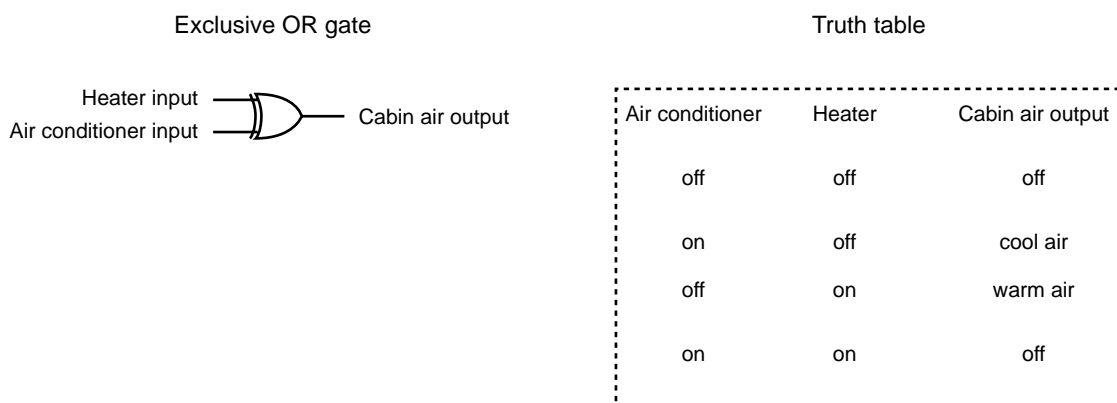

Figure 5
The combined heating and cooling system must never operate with both the heater and cooler working at the same time. The digital exclusive OR gate and its associated truth table (Figure 5) can be used as a control device to prevent the heater and cooler working at the same time.
- c. i. The truth table (Figure 5) indicates the operation of the exclusive OR gate. Explain how the exclusive OR gate can be used to ensure that only the heating or cooling system can operate at any one time.